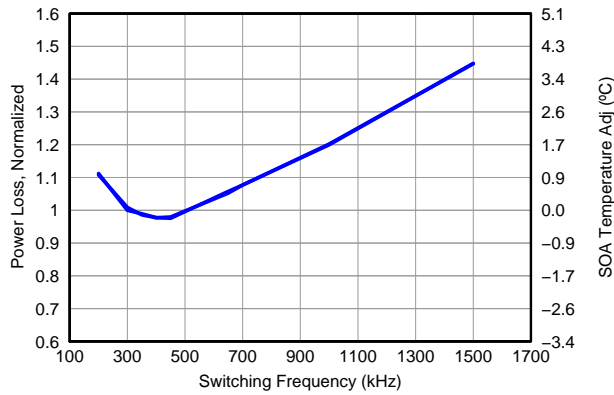

Figure 6. Normalized Power Loss vs Switching Frequency
- Normalized Power Loss for switching frequency  $\approx 1.2$  (Figure 6)
- SOA adjustment for switching frequency  $\approx 1.2^\circ\text{C}$  (Figure 6)